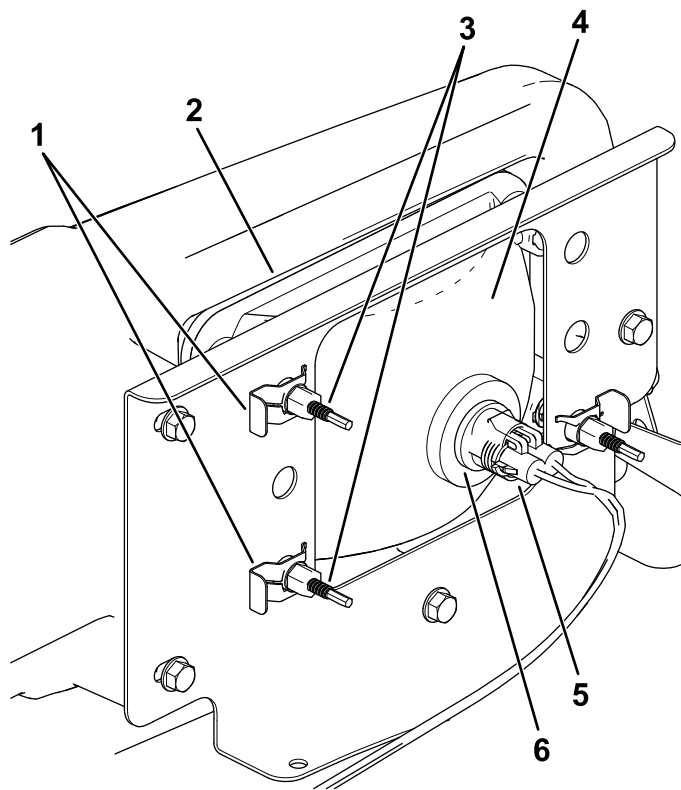

Figure 53
3. Disconnect the electrical connector for the harness from the connector of the lamp assembly (Figure 53).
4. Remove the speed clips that secure the headlight to the headlight bracket (Figure 53).
5. Remove the headlight assembly by moving it forward through the opening in the front bumper (Figure 53).
6. Install the new headlight through the opening in the bumper (Figure 53).
8. Connect the electrical connector for the harness to the connector of the lamp assembly (Figure 53).
5. At the back of the headlight assembly, rotate adjustment screws (Figure 53) to pivot the headlight assembly and align the position of the cast beam.